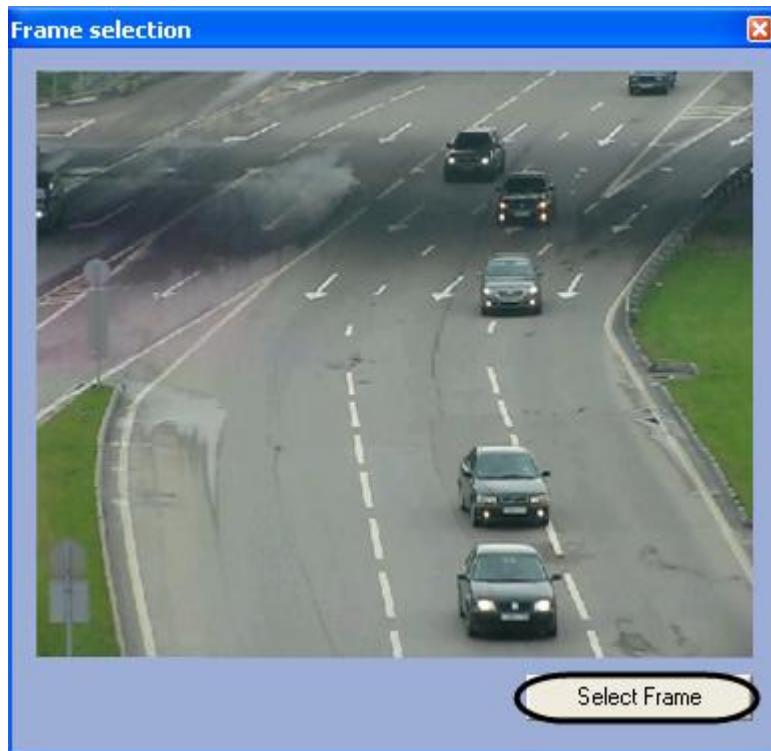

Fig. 7.6-4 Frame selection for setting up the detection zone
3. Frame selection dialog window will open in result (Fig. 7.6-4)
4. Click Select frame to select a video frame (Fig. 7.6-4)